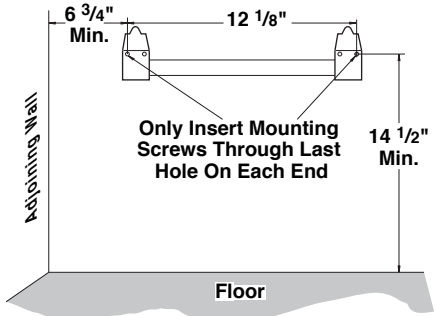

Figure 8 - Mounting Bracket Clearances
2. Mark screw locations on wall (see Figure 8). *Note: Mark only last hole on each end of mounting bracket. Insert mounting screws through these holes only.*